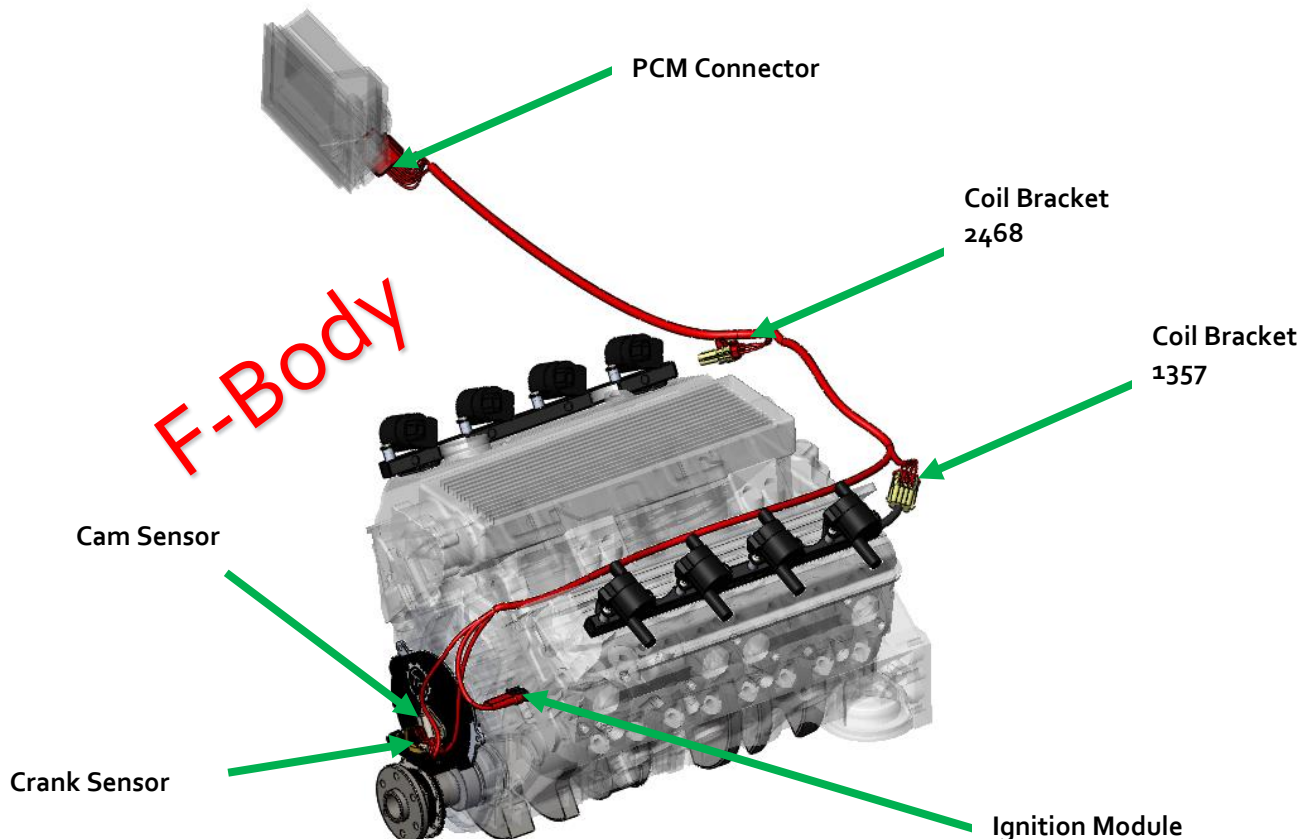
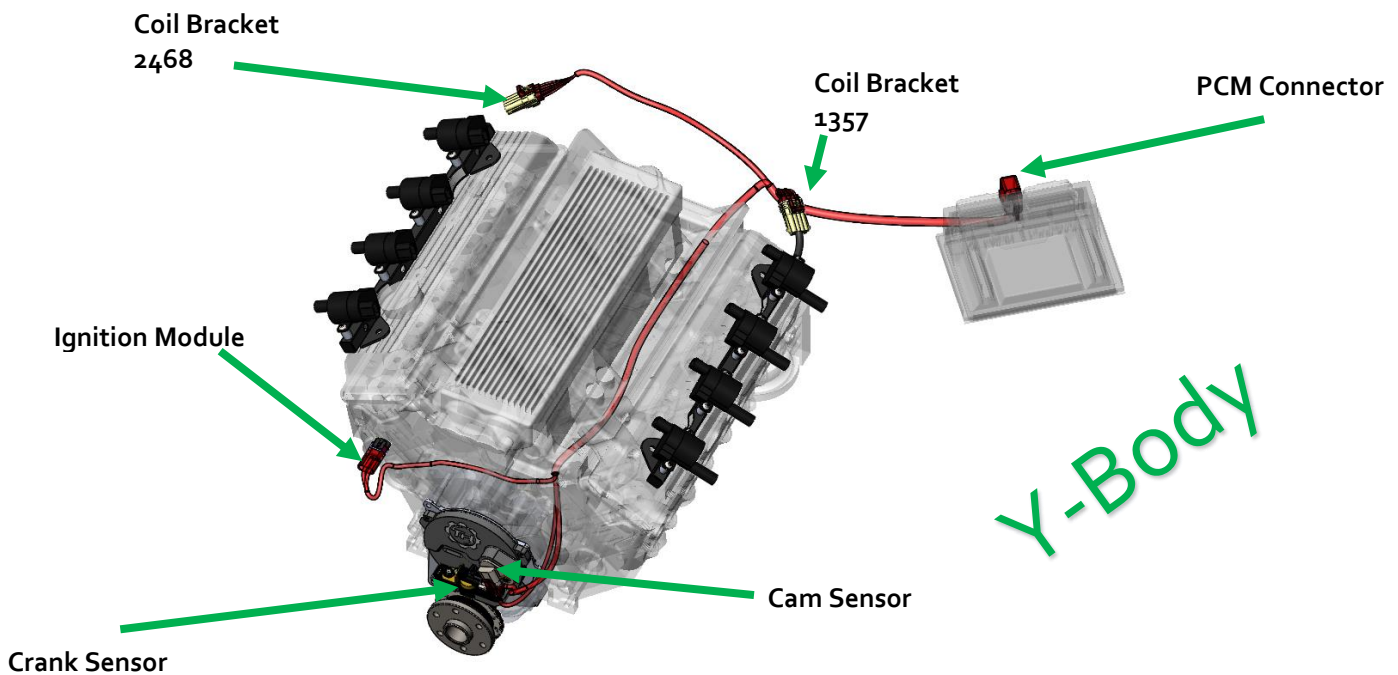

Figure 3 - F-Body C3 Harness Routing and Connection Points
Figure 5 - Y-Body C3 Harness Routing and Connection Points
1. Lay in and route the C3 harness according to your platform. See Fig 3 thru Fig 5. Some adjustment may be required for harness to fit appropriately and ensure it doesn't come close to hot components.